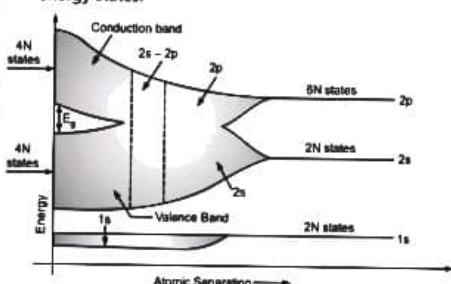

Fig. 5.22 : Formation of energy bands in a diamond crystal
- The imaginary formation of a diamond crystal from isolated carbon atoms is shown in Fig. 5.22. Each isolated carbon atom has an electron structure $1s^2 2s^2 2p^2$. Each atom has available two $1s$ states, two $2s$ states and six $2p$ states and higher states.